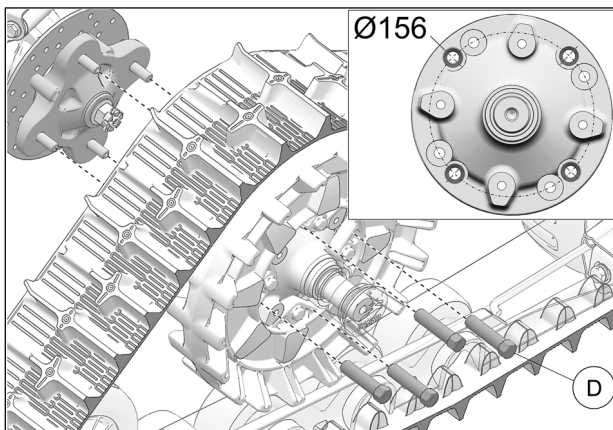

Fig. 11
10. Secure undercarriage to rear hub using the provided M12 lug nuts (D). Use bolt circle Ø156 mm. See Fig. 11
- Using the provided M12 lug nuts (D), secure undercarriages to the front wheel hubs. The procedure and precautions are the same as for rear units. Refer to Fig. 11